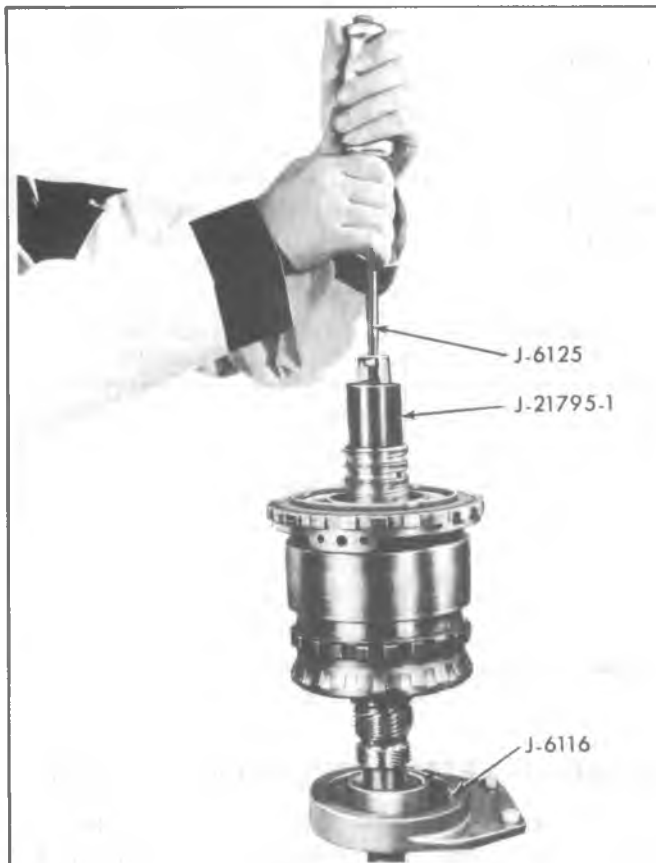

Figure 400-46 Gear Unit Holding Fixture
9. Using Adapter, J-21364, in Rear Unit Holding Fixture, J-6116-01, place gear unit assembly in holding fixture with mainshaft pointing upward, **Figure 400-46**. Remove Tool J-21795.